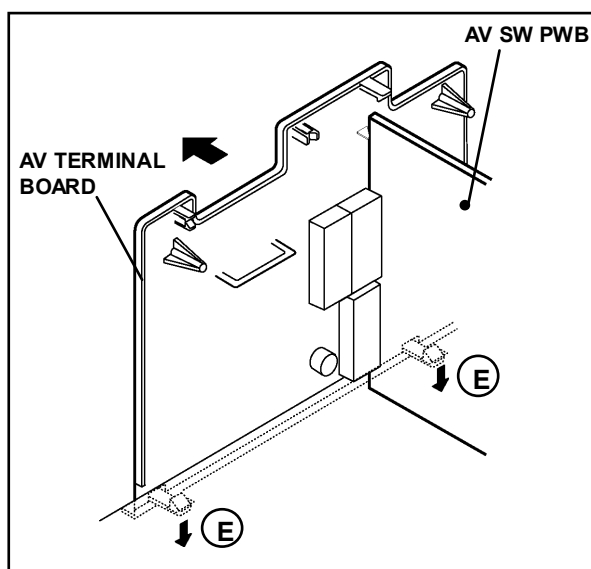

Fig. 2
2. Remove the 2 claws marked **E** under the CHASSIS as shown in Fig. 2.
3. Remove the AV TERMINAL BOARD slightly in the direction of arrow **F** as shown in Fig. 2.